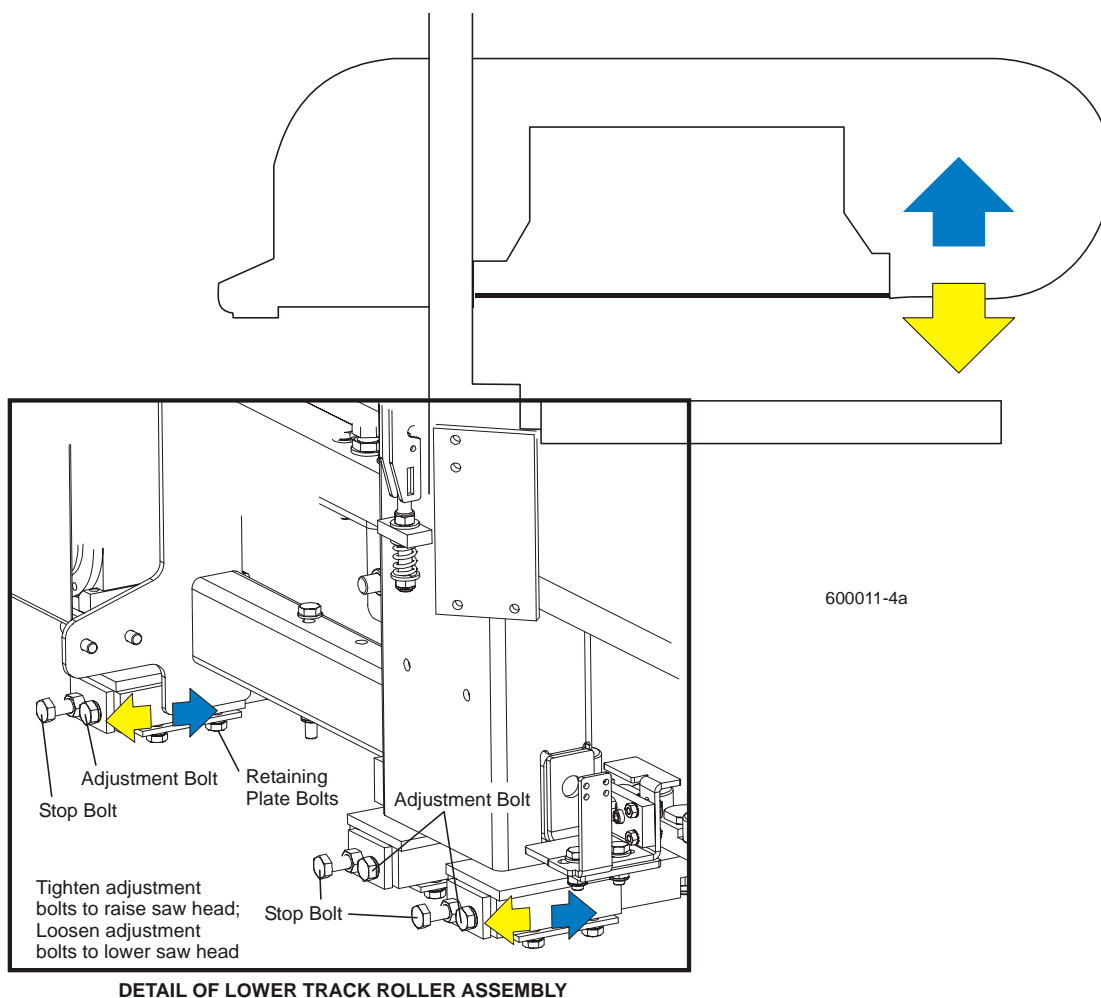

FIG. 7-2
**See Figure 7-2.** To adjust the saw head tilt, use the bolts located at the bottom of the saw head mast. Loosen the three sets of four retaining plate bolts. To raise the outside of the saw head, back the stop bolts out, then tighten the adjustment bolts. To lower the outside of the saw head, loosen the adjustment bolts and tighten the stop bolts. Recheck the measurement from the blade to the bed rails and adjust the stop bolts and adjustment bolts until the outside of the saw head is 1/26" (1mm) higher than the inside. Retighten the retaining plate bolts.